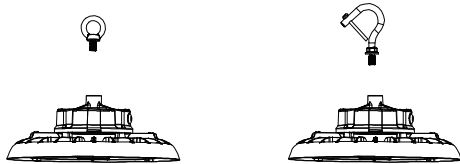

Figure1
1. Screw the hook into the fixture. tighten and fix it(Figure1)